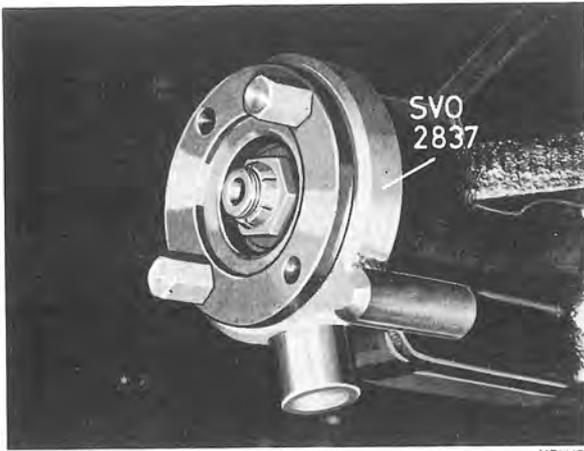

Fig. 4-137. Counterhold for flange
2. Remove the nut for the flange. Use for this purpose tool SVO 2837, see Fig. 4-137. Pull the flange off with puller SVO 2261, see Fig. 4-138. Pull out the old oil seal with puller SVO 4030.
7. Turn the final drive and let the oil run out into a container. Use tool SVO 2837 as a counterhold for this purpose, see Fig. 4-137. Pull off the flange with puller SVO 2261, see Fig. 4-138. Press out the pinion.